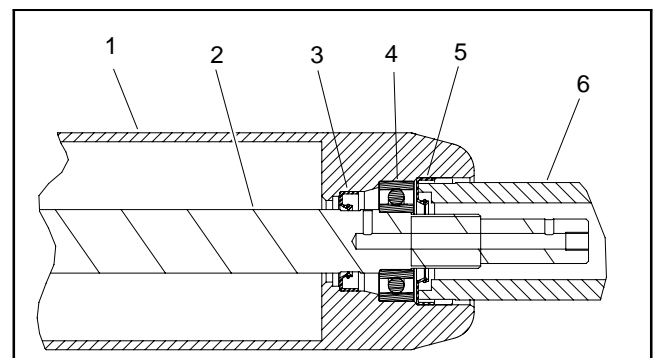

Figure 16
D. Carefully install first outer seal into roller tube making sure that seal lip (and garter spring) faces end of tube. Use bearing/outer seal tool (see Special Tools) and soft face hammer to lightly seat seal (Fig. 16). Make sure that shaft and bearings still freely rotate after seal installation.